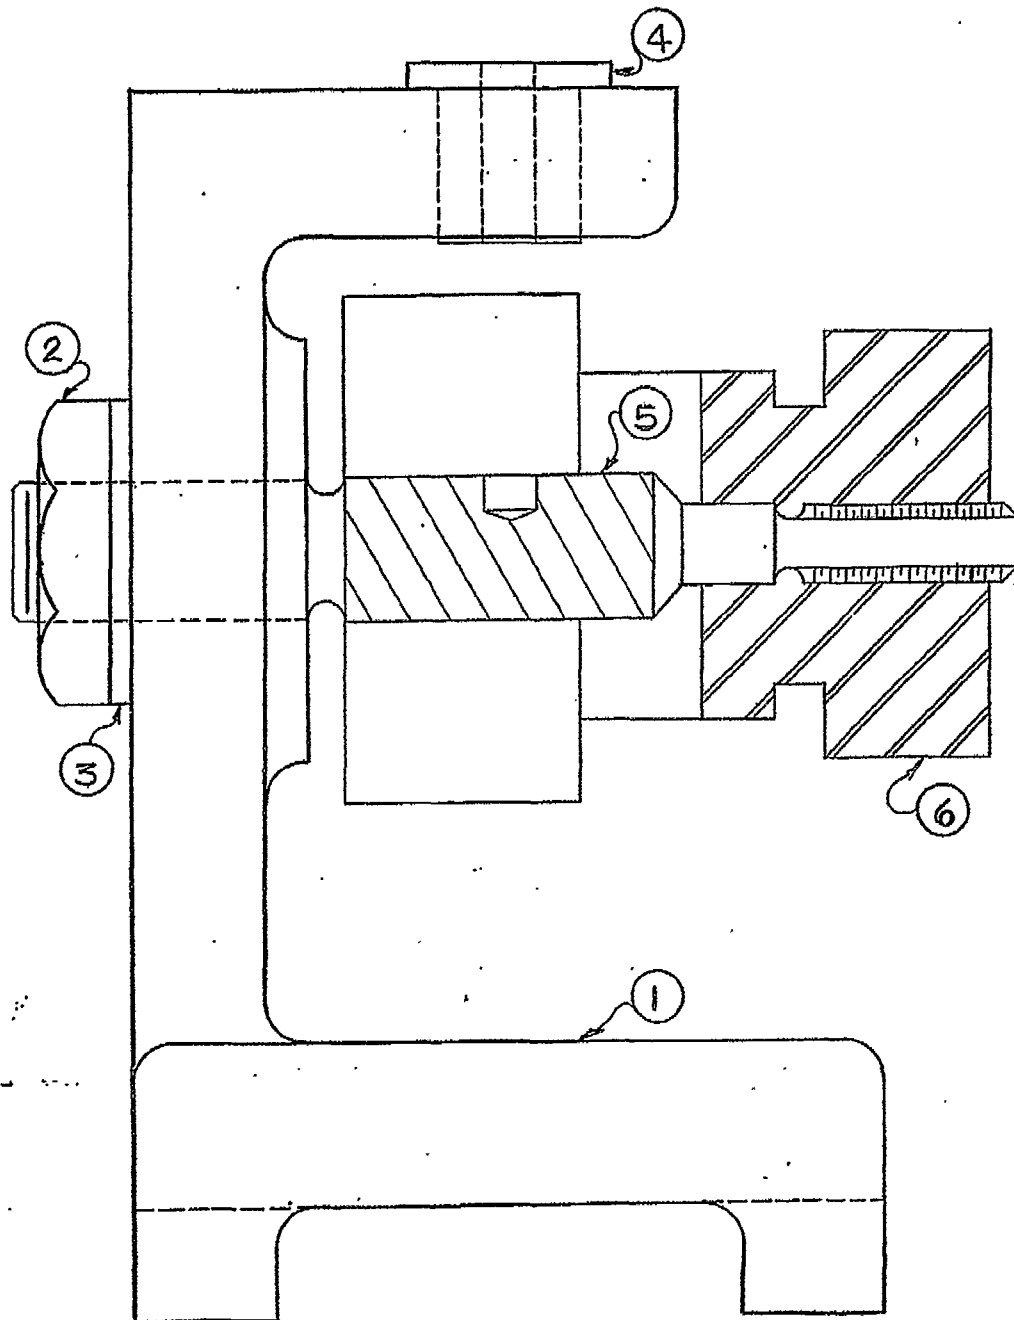

FIGURE 10
- (c) Assembly Drawings: Assembly drawings show an object with its parts assembled and ready to operate. They are carefully drawn with sufficient views to show the location of each part that goes into the makeup of the machine. Each part is identified by a number giving reference to another drawing, sketch or note so that the workman can see where the parts go and place them in the proper position. The only dimensions given are those which are necessary to put the object together. Frequently, no assembly dimensions are necessary. (See Figure 10)